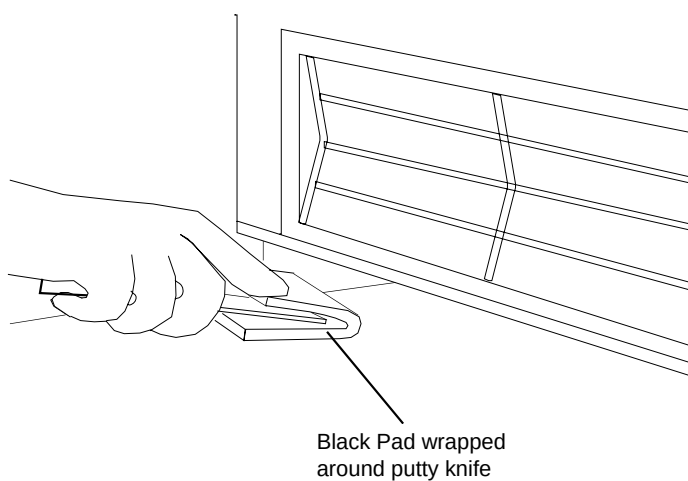

Figure 4-19.
2. Wipe off all interior surfaces with damp grill pad. Use your black pad and putty knife to loosen any baked on material. Refer to Figure 4-19.